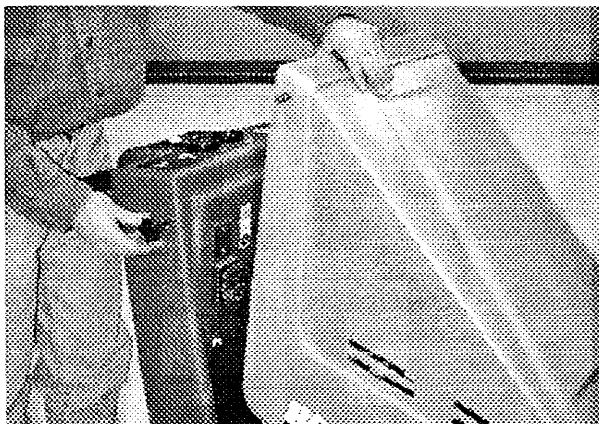

Fig. 1.
2. Remove front hood to access battery compartment. Remove loose battery cable. (Fig.1)